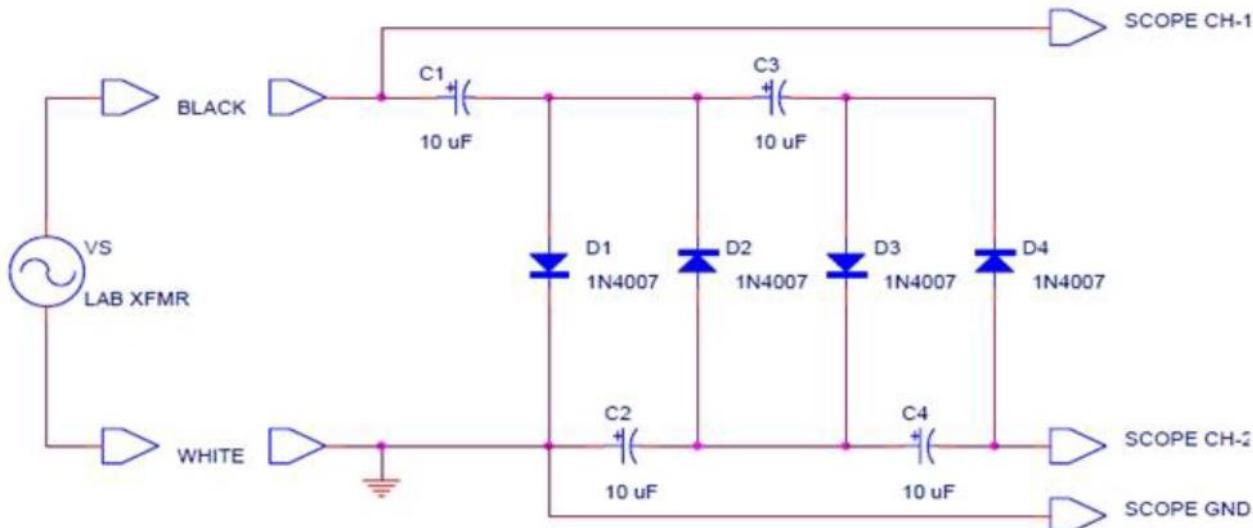

Figure E2.8
Add additional diodes and capacitors to the breadboard to produce the circuit shown in Fig. E2.8 below. Be very careful to install each diode and each capacitor in the correct polarity. The parts used in this circuit are: D1, D2, D3, D4 = 1N4007 C1, C2, C3, C4 = 10 μ F 25 V electrolytic
- Measurement-8 Adjust the vertical position of both oscilloscope channels so that the zero voltage level is aligned to the center cross hair on the screen. Draw a schematic of the multiplier circuit in your notebook, and then place a little sketch of the voltage waveform existing at each end of each diode (8 nodes total) beside each of the nodes in your schematic. Use the Ch-2 oscilloscope probe to sample each of these waveforms. Measure the DC output voltage that appears at the node between D4 and C4, as shown in Fig. E2.8. This is the actual output terminal of the multiplier. Use the bench DMM to measure the voltage existing across each capacitor and record these values and their polarities on the schematic in your notebook.